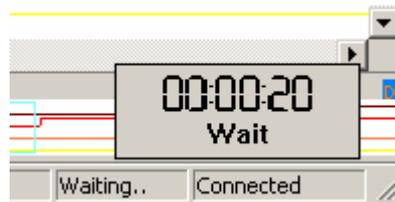

Fig 4-29 – Waiting Status
**Tip:** If the status is “Waiting...” with no signal output as shown in Fig 4-29, click the Stop  icon to end the Run. Check the setup again, and try the Run process again.